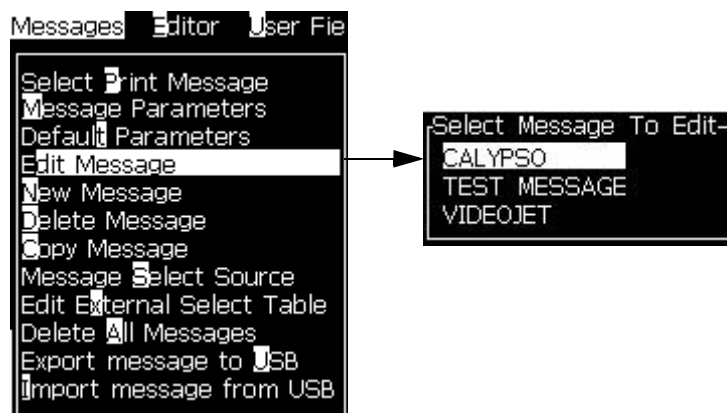

Figure 5-49: Edit Message Option
- 2 Select *Edit Message*. The *Select Message To Edit* dialog box appears. Refer to Figure 5-49.